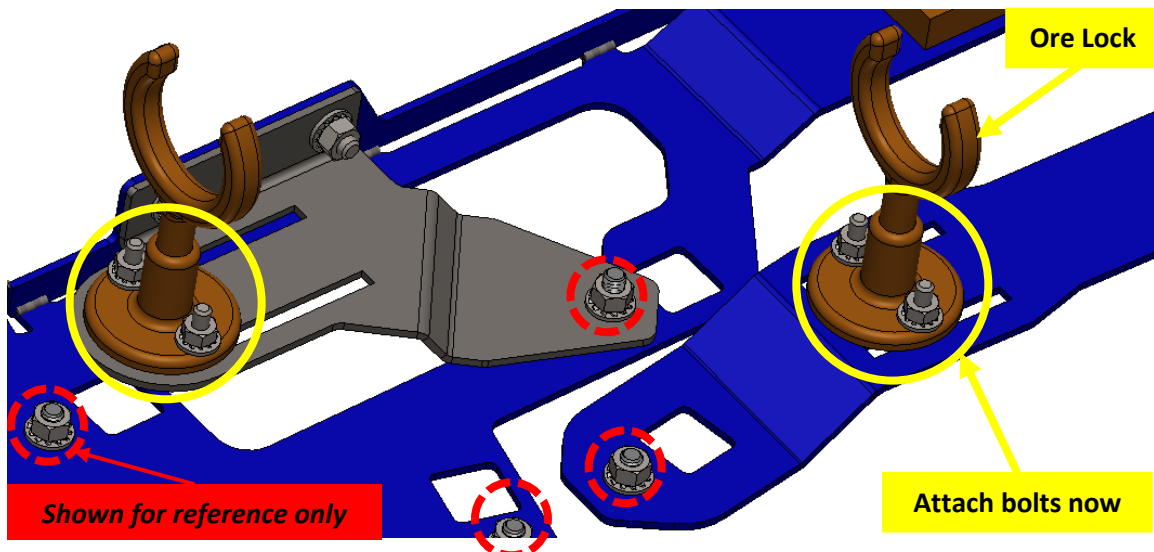

Figure 7 - Ore Locks attached to RAPTOR-301 and RAPTOR-303 (734 KIT ONLY)
9.4.2. Remove Ore Locks from Air Horn package and discard their included hardware. Attach Ore Locks onto Medium and Large Horn Bracket using hardware #4, #6, #8, and #14, as shown circled in Figure 7 below.